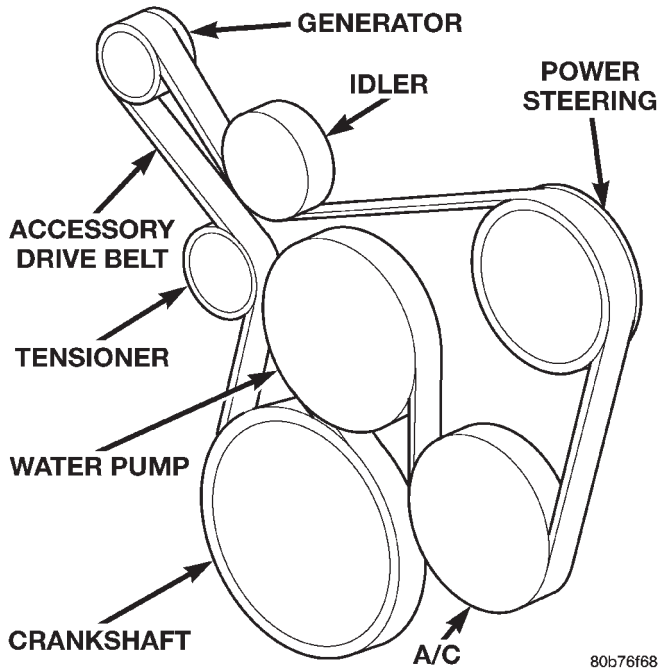
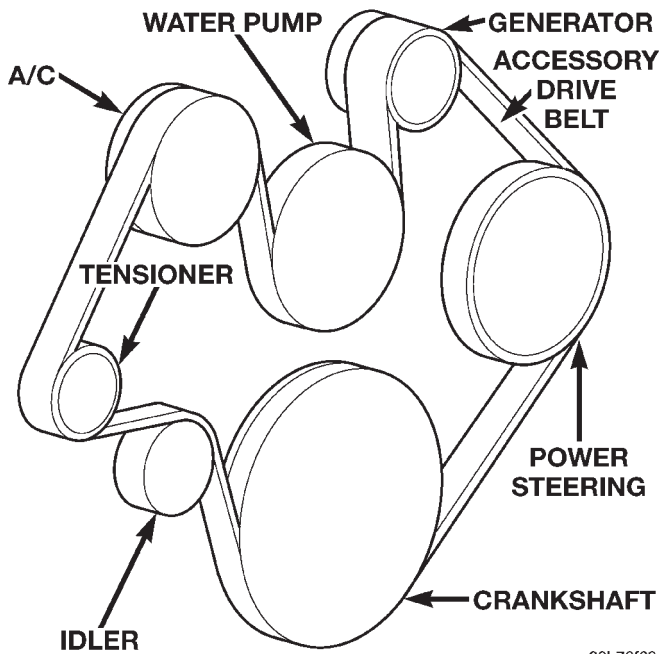

Fig. 56 Belt Routing—4.0L
Fig. 57 Belt Routing—4.7L
- (1) Disconnect negative battery cable from battery.
- (2) Loosen belt tensioner and remove belt (Fig. 56) (Fig. 57).
CAUTION: When installing the serpentine accessory drive belt, the belt **MUST** be routed correctly. If not, the engine may overheat due to the water pump rotating in the wrong direction (Fig. 56) (Fig. 57).
- (2) Install new belt (Fig. 56) (Fig. 57).